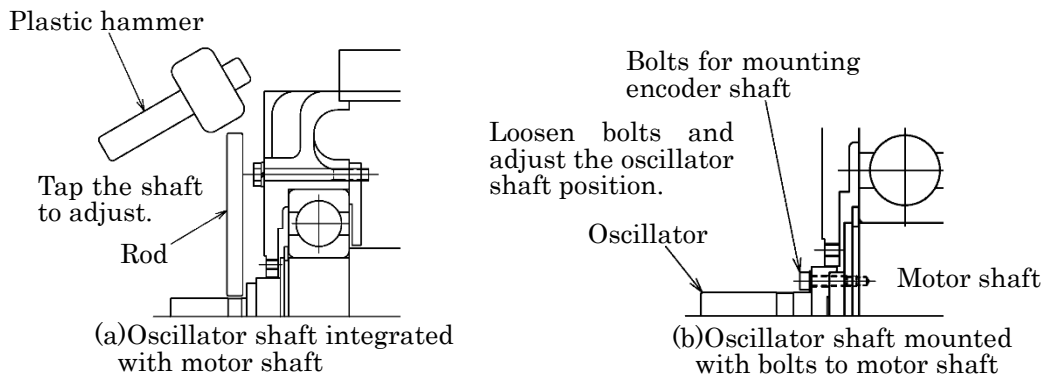

Fig.12 Shaft runout correction method
- (a) If the encoder mounting shaft is integral with the motor shaft (Refer to Fig.12 (a)), adjust by tapping the shaft end with a plastic hammer (Less than 2LB) and a rod of soft material that does not damage the shaft. (For example, Duracon) Be careful as the impact may cause an abnormality if the shaft is subjected to an extremely strong impact.
- (b) If the encoder mounting shaft is fixed to the motor shaft with bolts (Refer to Fig.12 (b)), loosen its bolts and adjust the mounting position. Be careful not to forget to tighten the bolt tightly at the end.
- (15) After assembling, rotate the shaft manually to confirm smooth rotation.